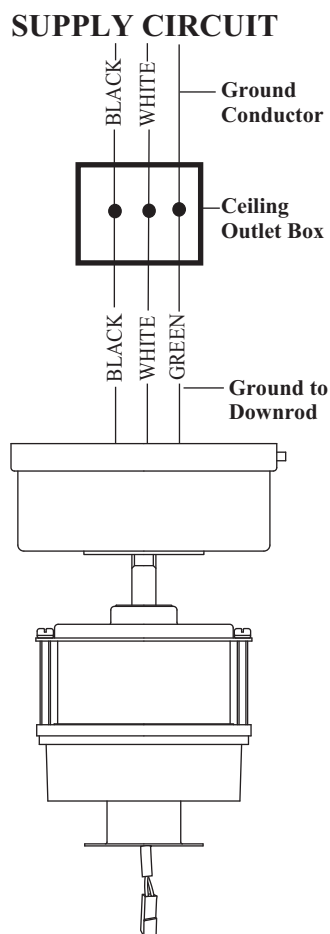

Figure 7
1. Connect the fan supply (black) wire to the black household supply wire (Conductor cable between ceiling and wall outlet box). (Fig. 7)